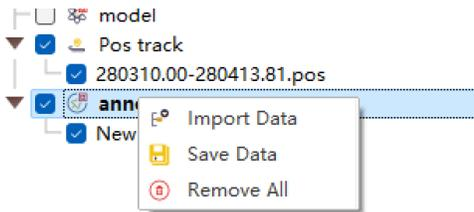

Figure 3-121 Saving and Importing Marking Points
- (6) Click the right mouse button on the labeled node, the pop-up menu Figure 3-121, select <Save Data> in the menu, you can save all the labeled point information under the current labeled layer to a file.
- (7) Click <Import Data> in the menu to reload the saved annotation point information into the view and workspace.